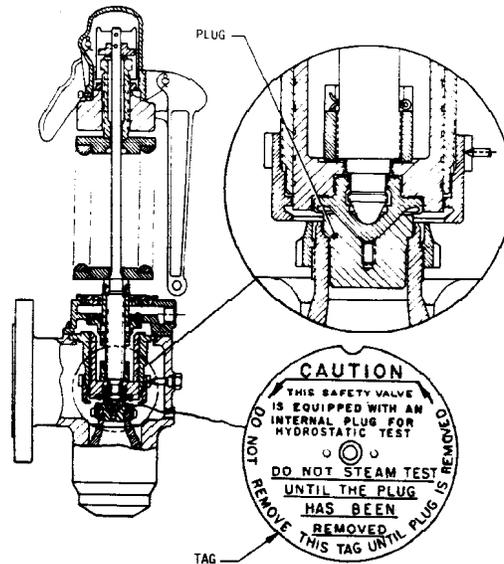

FIGURE 6
Valves shipped with either type of hydroplug are identified by a Red on White CAUTION TAG which is attached to the valve by wires extending through the drain hole in the valve body. See Figure 6 (below).
Upon completion of hydrostatic testing of the boiler, but prior to placing the boiler in service, insure that the hydrostatic plugs are removed from all valves. (Note: See Figure 6 on page 18 of this manual). The use of a DVCD Hydroset or EVT, unit can serve to establish set pressure but cannot be used for verifying blowdown, lift, etc. (For additional information, see Section X.E., of this manual). Gagging of other valves not being set will not generally be necessary; however, for setting of high pressure valves, depending on system pressure being used, it may be necessary to gag the lower set valves.
* This parenthetical statement is a reference to the tag shown in Figure 6, on page 18 of this manual.